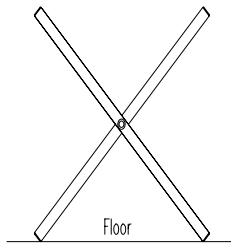
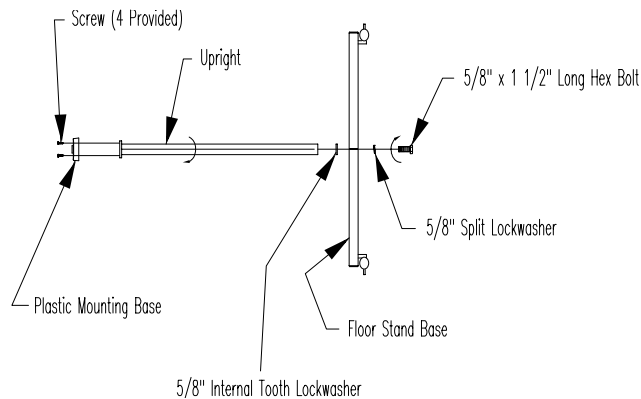

FIGURE 2
FIGURE 3
- **Wall Mounted** (Model #'s 045012, 045042) Fasten the plastic wall bracket to the desired wall location with (3) #10 diameter x 3" long (minimum length required) flat head wood screws. Anchor the bracket directly to a wall stud. If the bracket is to be fastened to a metal frame building, use the appropriate type of fastener to attach the unit to the metal stud.
- **Portable Floor Stand Mount** (Model #'s 045017, 045047) (See Figure 2) Set the floor base on a solid floor in the position shown. (See Figure 3) Place the split lockwasher over the 5/8" hex bolt and insert the bolt into the hole from the bottom of the base. Slip the internal tooth washer over the hex bolt from the top hole of the base. Insert the upright into the top hole of the base while holding the hex bolt in place. Rotate the upright in the direction shown to seat the upright and hex bolt. Use a 7/8" wrench to firmly tighten the hex bolt. Turn in the direction shown. Attach the plastic mounting base to the top of the upright with the 4 screws provided.